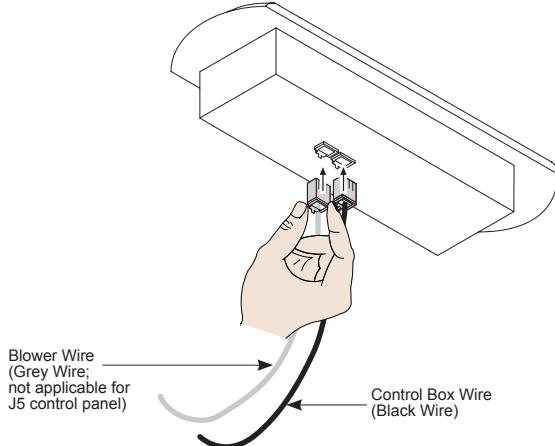

Figure 4 - Control Panel
- 1 Insert the wire connector(s) into the back of the control panel (Figure 4). The J5 LCD control panel only requires insertion of the black control box wire.